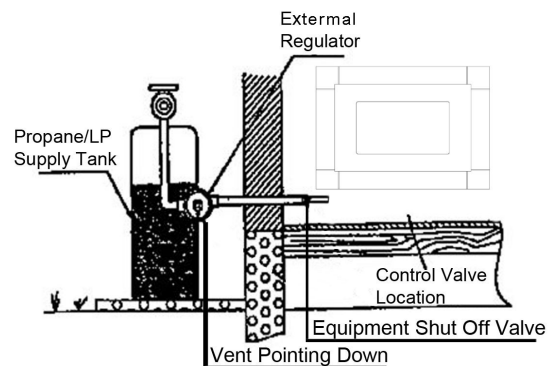

Figure 11
4. Check all joints from equipment shutoff valve to control valve (Figure 11). Apply mixture of liquid soap and water to gas joints. Bubbles forming show a leak
3. Check all joints from gas meter to equipment shutoff valve (see Figure 11). Apply mixture of liquid soap and water to gas joints. Bubbles forming show a leak.